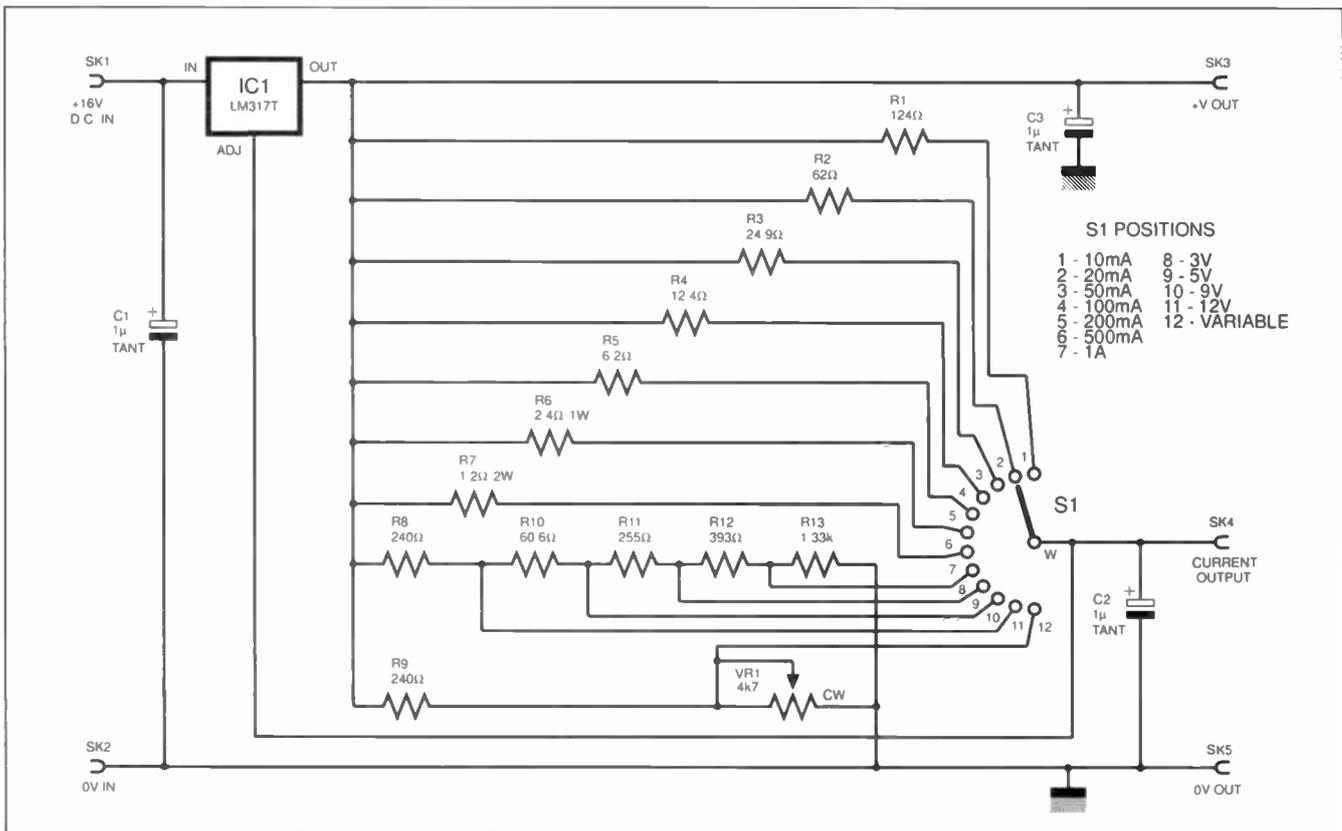

Fig. 4. Circuit diagram for the Mini Power Supply Unit. Switch S1 is a 12-way single-pole rotary type and the capacitors are tantalum types.
**A** VERY simple LM317T-based voltage/current source, which may be used for charging Nickel-Cadmium cells or whenever a handy power supply is needed, is shown in Fig. 4. It is an easy project for the beginner to build, and is intended to be used with a plug-in mains adaptor offering an unregulated d.c. output.